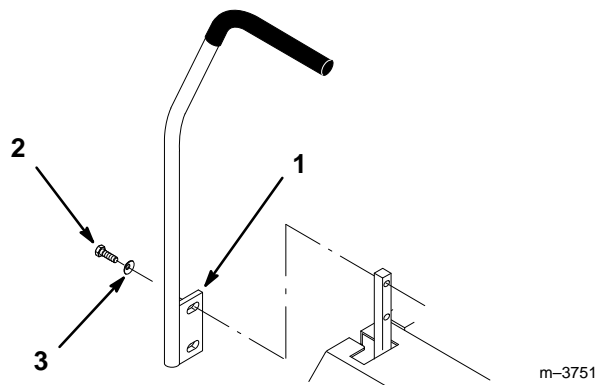

Figure 3
8. Remove the (4) 3/8–16 x 1" (26 mm) bolts and (4) 3/8" spring washers which attach the motion control levers to the control arm shafts for shipping (Fig. 3).
9. Place the levers (with the mounting plate towards the rear) on the outside of the control arm shaft and secure with (4) 3/8–16 x 1" (26 mm) bolts and (4) 3/8" spring washers (Fig. 3).
11. Align the front/rear position of the levers, with each other, in the neutral position. Loosen hardware and adjustment by sliding/tilting the lever(s) forward or backward until properly aligned (Fig. 3).